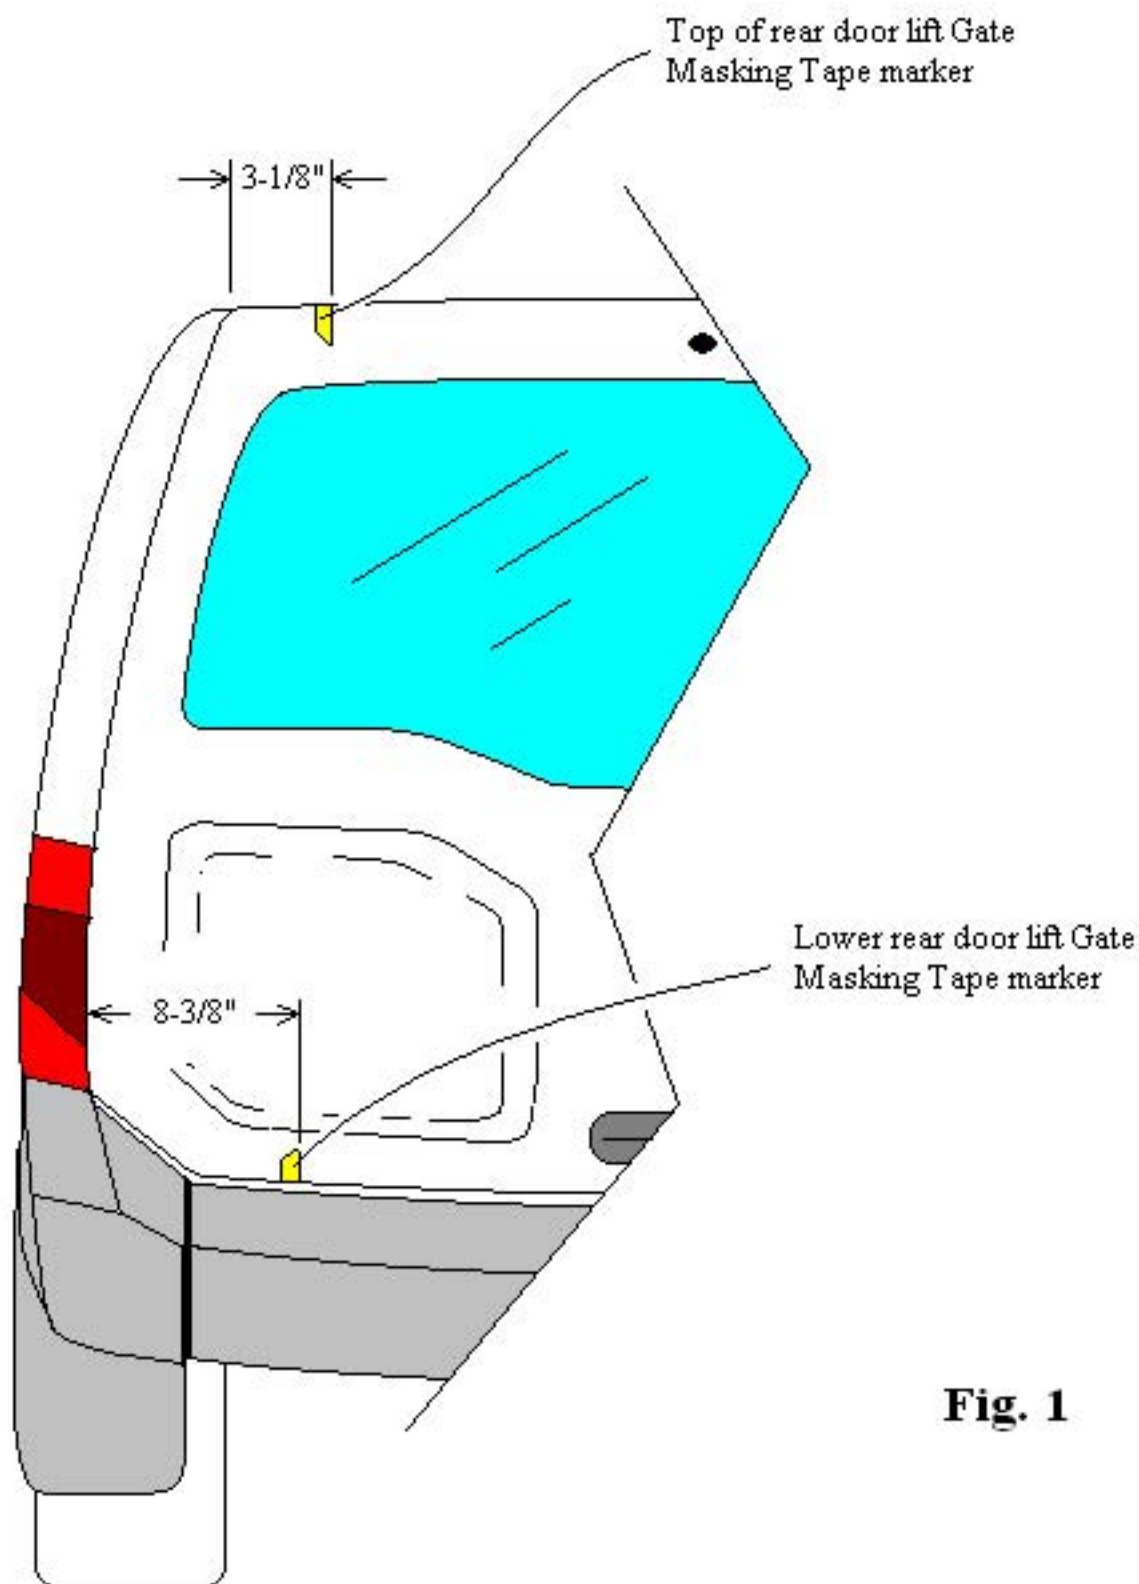

Fig. 1
- 2- Refer now to page 4 using masking tape or the like attach a piece of tape as shown in Fig. 1 at the top of the rear door Lift Gate approximately 3-1/8" from the top left or drivers side edge. Continue to the bottom of the rear door Lift Gate and attach a piece of masking tape to the lower edge of the door as shown in Fig. 1 8-3/8" from the left side or drivers side door edge.